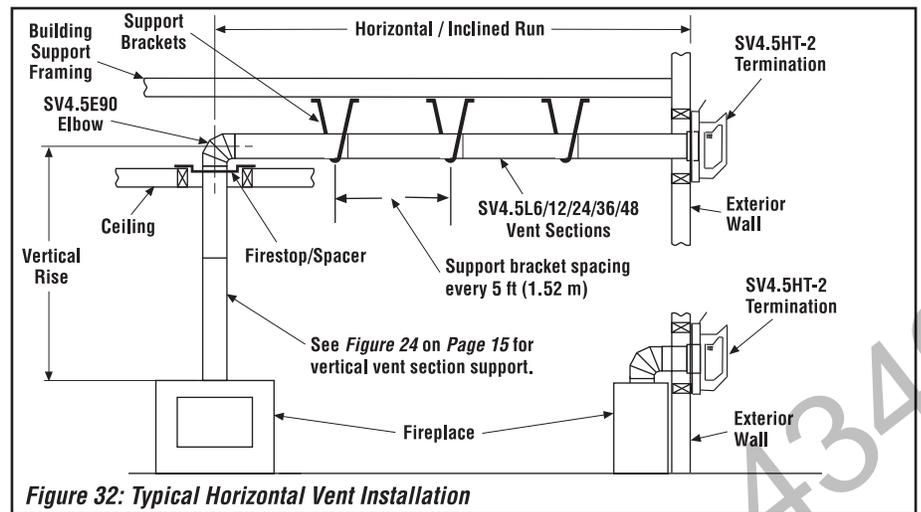

Figure 32: Typical Horizontal Vent Installation
Figure 32, and Figures 35 to 41 on Pages 21 to 23 and their associated Horizontal Vent Table illustrate the various horizontal venting configurations that are possible for use with these appliances. **Secure Vent®** pipe applications are shown in these figures; **Secure Flex®** pipe may also be used. A Horizontal Vent Table summarizes each system's minimum and maximum vertical and horizontal length values that can be used to design and install the vent components in a variety of applications. Both of these horizontal vent systems terminate through an outside wall. Building Codes limit or prohibit terminating in specific areas. Refer to **Figure 7 on Page 7** for location guidelines.
I. Continue installation of horizontal/inclined sections—Continue with the installation of the straight vent sections in horizontal/inclined run as described in **Step E**. Install support straps every 5 ft. (1.52 m) along horizontal/inclined vent runs using conventional plumber's tape. See **Figure 32**. **It is very important that the horizontal/inclined run be maintained in a straight (no dips), slightly elevated plane. The recommended incline is approximately 1/4 in. per foot (20 mm per meter) horizontal, in a direction away from the fireplace.** The rise per foot run ratios that are smaller are acceptable all the way down to at or near level. Use a carpenter's level to measure from a constant surface and adjust the support straps as necessary.